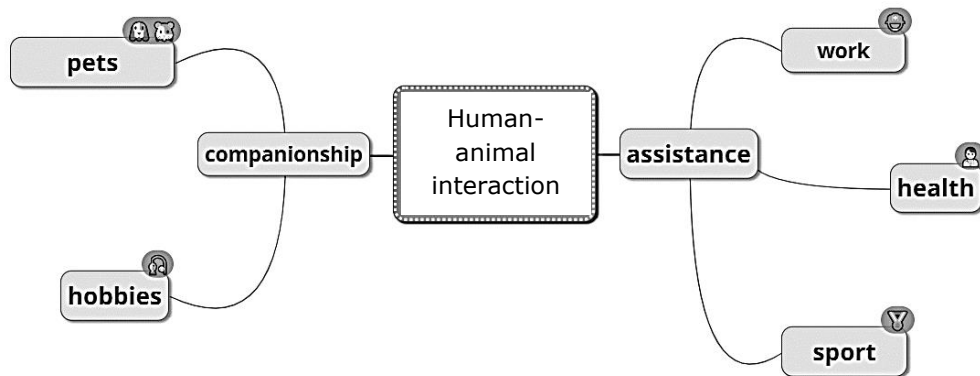

Figure 1
1. Consider the mind map on Figure 1 which starts exploring the context of the situation.
- a. Use the mind map on Figure 1 to add **FOUR** more entries which further explore the context of the situation. (2)